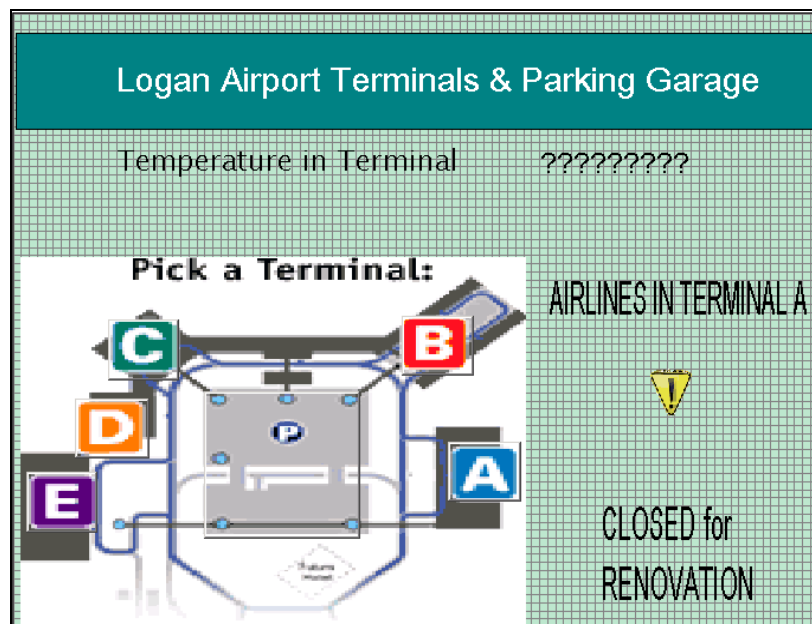

Figure 5.26
- 10 Select the two text fields that you have created, as well as the attention symbol while holding the shift key. Group these items together by clicking on the  button on the **Arrange** toolbar. Layer 1 should now look like Figure 5.26.